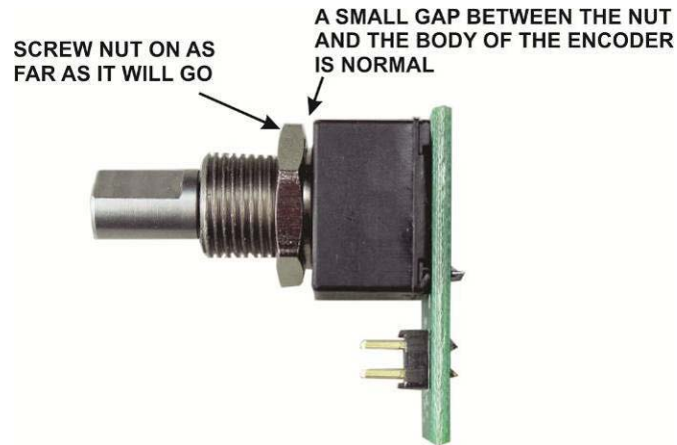

Figure 15. Preparing the VFO Encoder for Installation.
- Locate the VFO encoder, lock washer and two hex nuts. Thread one nut onto the shaft until it reaches the end of the threads as shown in Figure 15. Note that a small gap between the nut and the encoder body is normal.